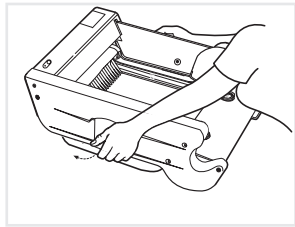
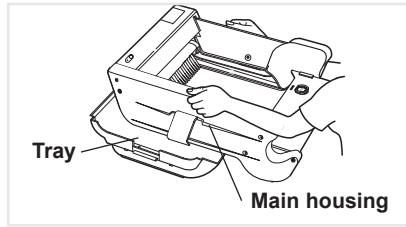

Fig. 8a
Fig. 8b
- Lift latches on both sides of unit and lift (Fig. 8a). This will separate tray from main housing (Fig. 8b).